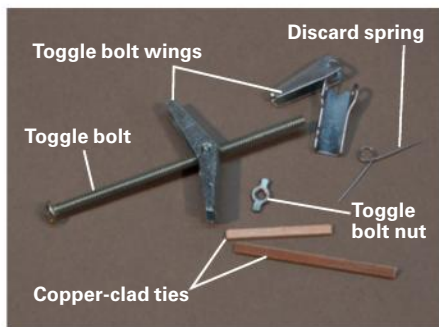

Fig. 1 All the pieces. The parts from two 1/8" toggle bolts and two copper-clad ties are the materials needed to make the track adjuster.
Making the adjusters is simple. You only need two copper-clad printed-circuit (PC) board ties and two $\frac{1}{8}$ " toggle bolts (See **fig. 1**). Pre-cut copper-clad ties – basically just a narrow strip of PC board material – are available from Fast Tracks (www.handlaidtrack.com) or Clover House (www.cloverhouse.com). Or you could cut your own from a sheet of PC board material. Toggle bolts, used for hanging items on plasterboard walls, are sold at hardware stores.
.060" x .060" styrene spacers, as shown in **fig. 1** on the next page. I then shortened the ends of the underbody by .060" to maintain the proper car length.